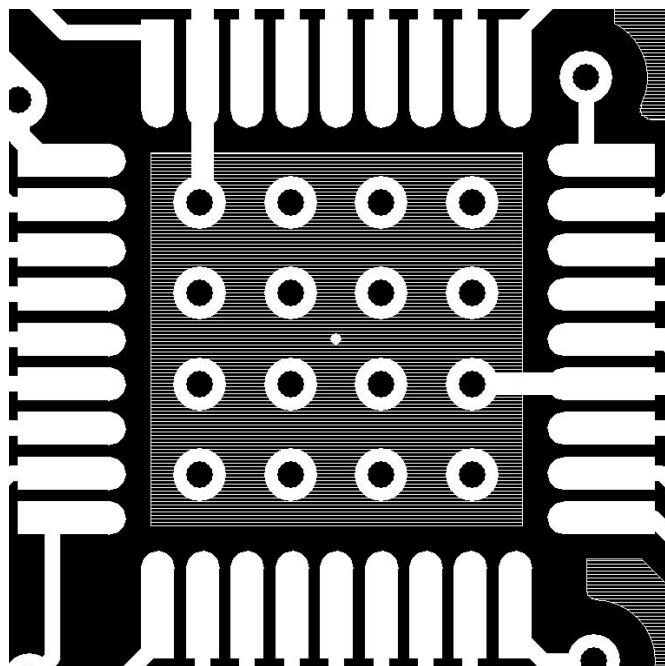

Figure 8. Ground Pad Recommended Layout
- Added Figure 8, "Ground Pad Recommended Layout," on page 45.